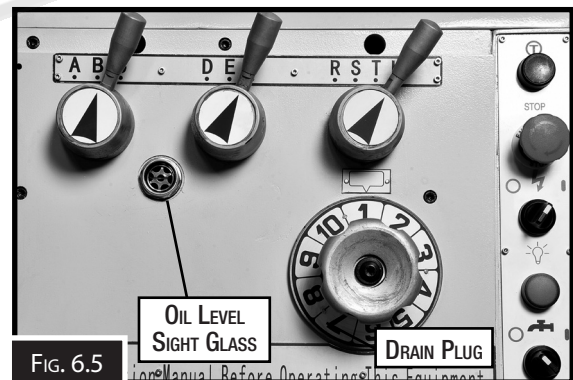

FIG. 6.5
The quick change gearbox is oil-bath lubricated to insure the long life of the gears and bearing. It is recommended the lubricant to be changed every twelve months with a 20W non-detergent oil, or an equivalent gearbox machine oil. The oil level can be checked by viewing the sight glass (Figure 6.5) The oil level should be kept so that the oil is level to the middle of the sight glass.
1. Drain the gear box. See Fig. 6.5 for the drain plug.